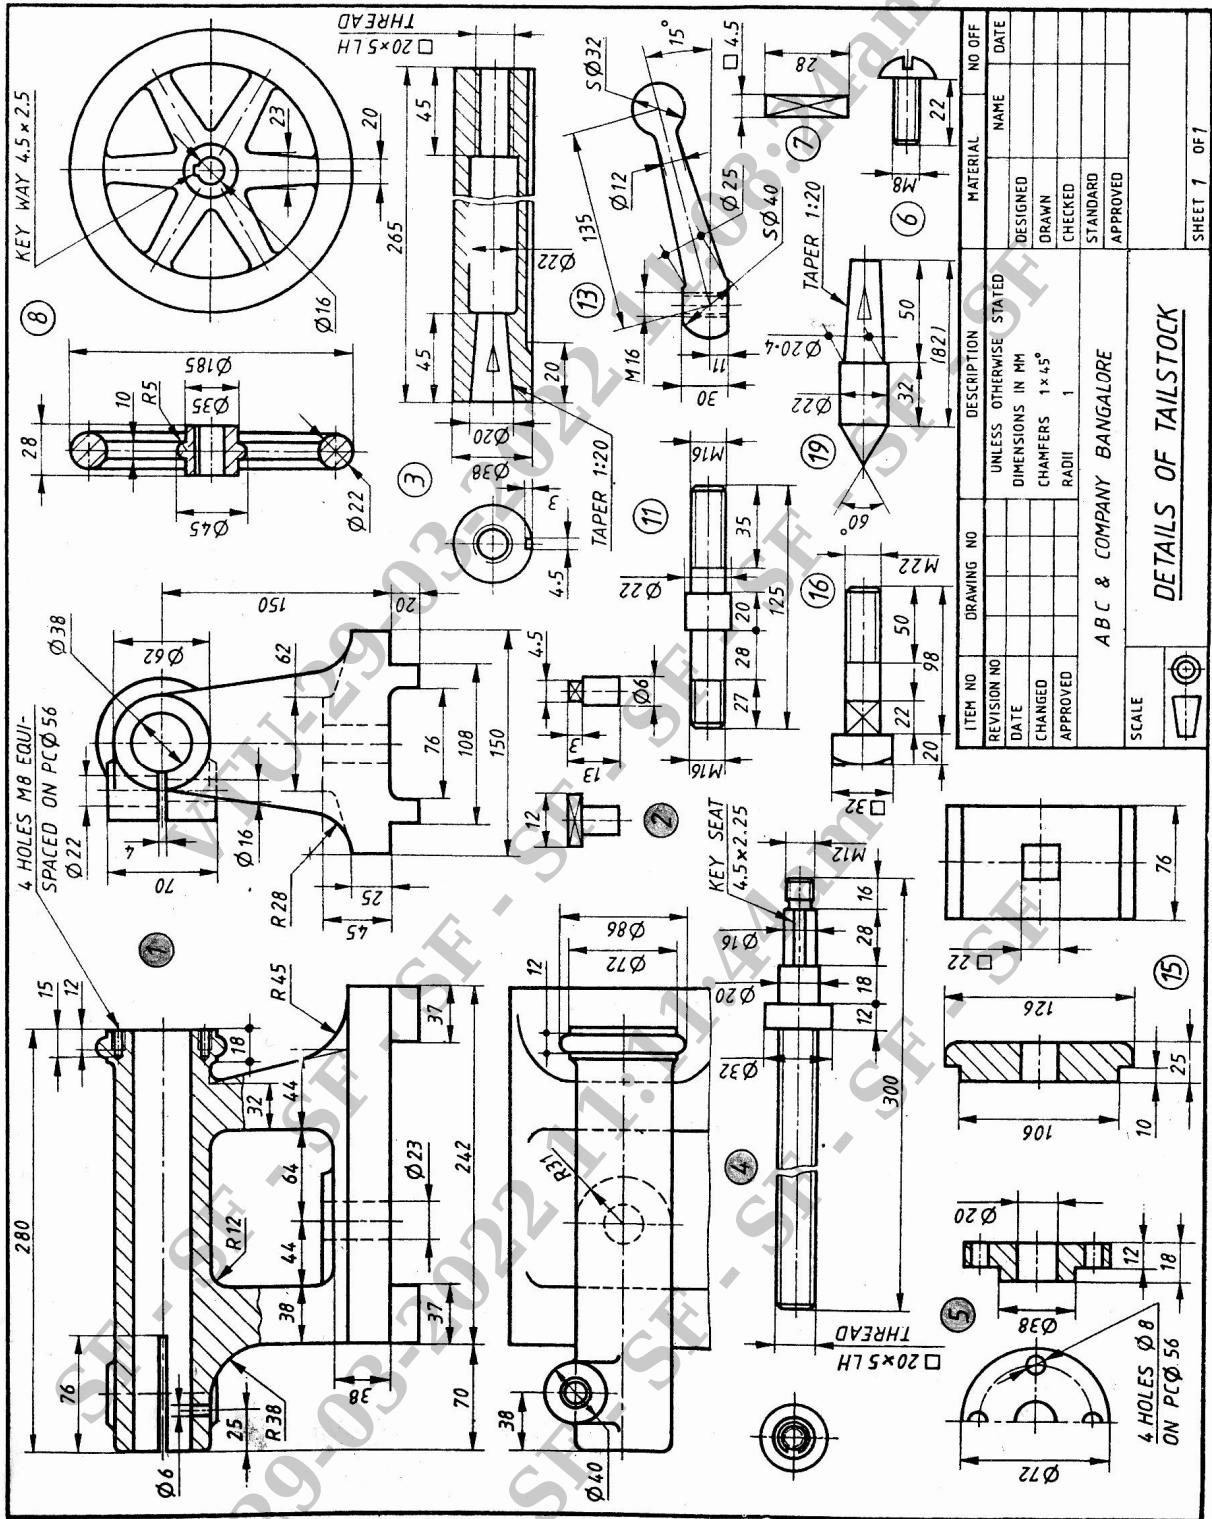

Figure 2: Details of tailstock
6. Figure 2 shows the part drawing of a tail stock. Assemble the tail stock and show the following views.